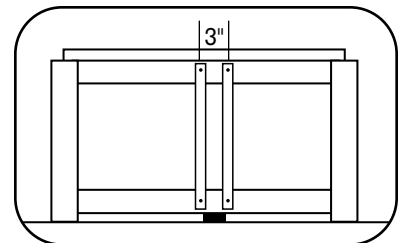

Fig. 35
- Balusters must be installed no more than 3" apart* (Fig. 35). Use a level and a square to ensure proper alignment of each Baluster. *Note: A piece of scrap Side Rail cut 3" wide can be used as a spacer when installing Balusters.*